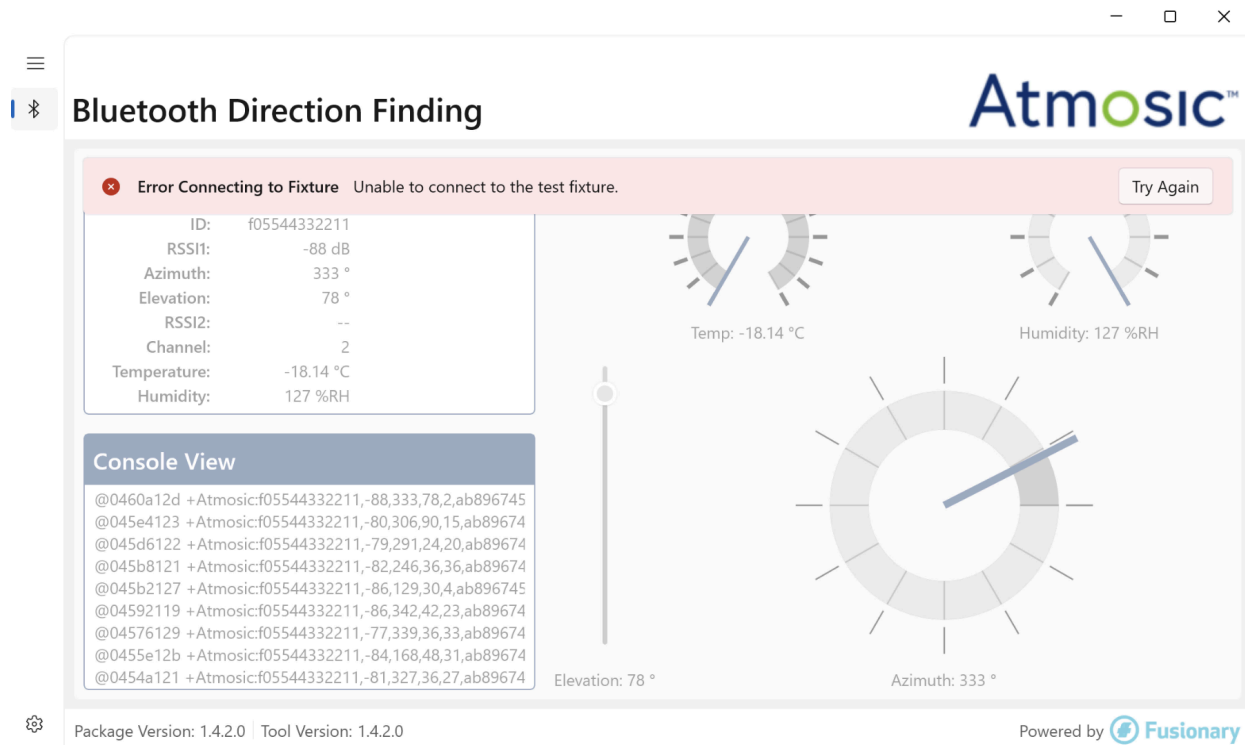

Figure 7 – ‘Try Again’ Button in the GUI Software
- Figure 7 - 'Try Again' After Connecting the Locator to the Computer
- 3) Return to the GUI and click 'Try Again' after the Locator has been connected to the computer. See Figure 7.